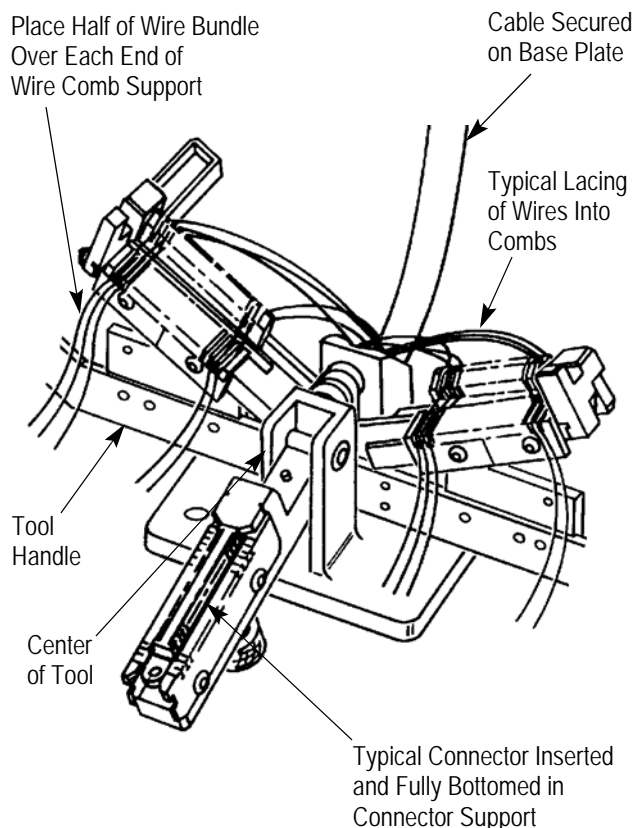

Figure 3
9. Hold cable in position and close the cable clamp. See Figure 3.
- While keeping the wire tight, bend the wire under front comb and around the inside of wire comb supports. See Figure 3.